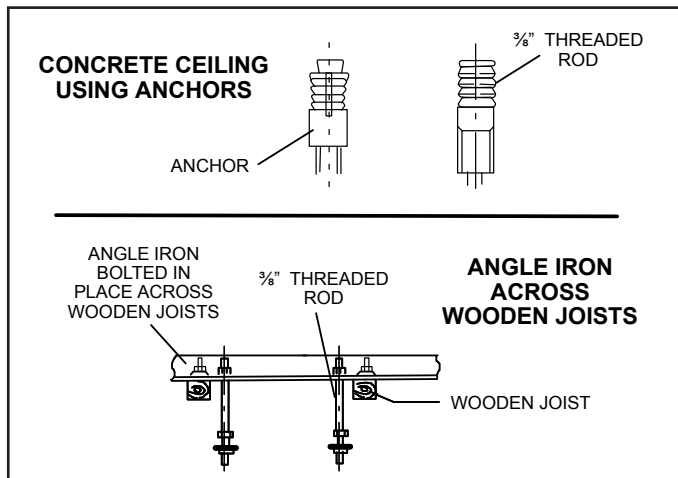

Figure 2. Suspending Methods
2. Install suspension rods in the structural ceiling or concrete slab in a suitable location. If the structural ceiling is constructed of concrete, install anchors to accept four $\frac{3}{8}$ " threaded rods to suspend the indoor unit. If the structural ceiling includes wooden joists, use angle iron or Unistrut channel fixed securely in place to accept the $\frac{3}{8}$ " threaded rods. **NOTE - Threaded rod (requirement of Lennox warranty program) is the ONLY acceptable method of suspending the unit; do not use chains or straps.** See Figure 2.